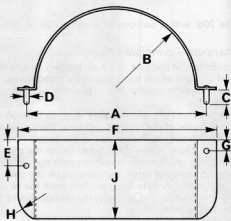

Fig. 13.3 Temporary chain guard (Sec 4)
- 9 Make up a temporary chain guard and oil baffle from 18 or 20 swg mild steel sheet (Fig. 13.3).